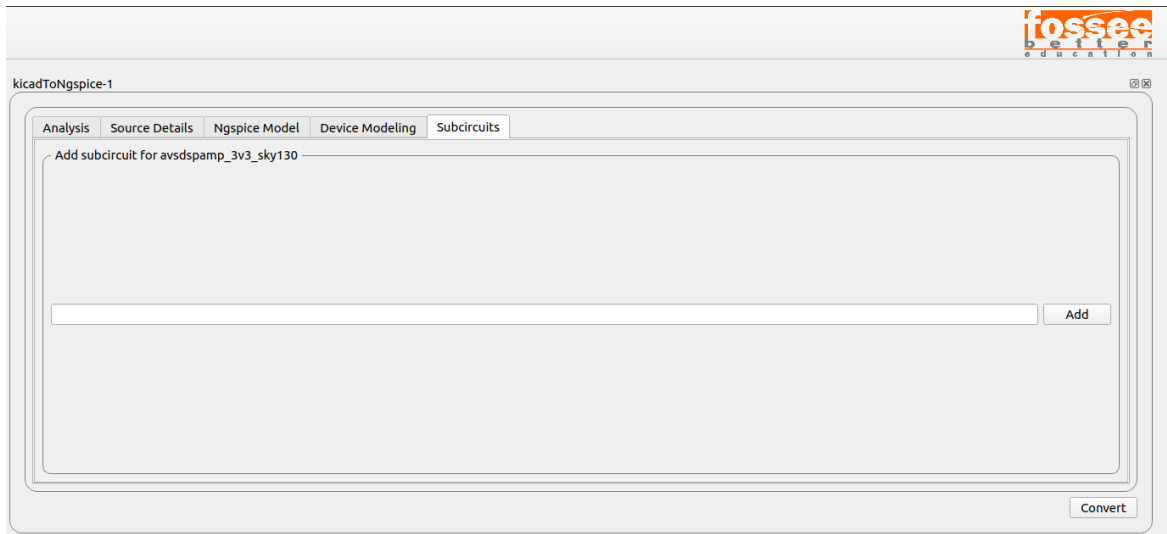

Figure 9.6: Subcircuits Tab
- If a SKY130 Subcircuit IP is added in the circuit. Then Click on the **Subcircuits Tab**. For Example, refer Fig.9.6.